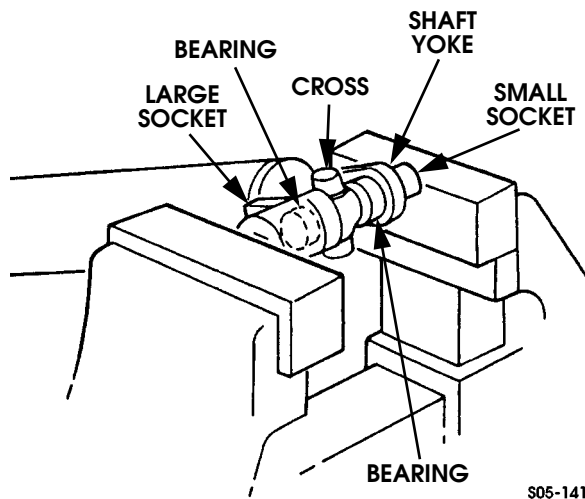

Figure 9-120: U-Joint Cross and Bearing Installation
2. Remove grease fitting from cross (Figure 9-120).
5. Position propeller shaft in vise with 1-1/8 socket between vise jaw and bearing being removed. Be sure open end of socket is facing bearing cup (Figure 9-120).